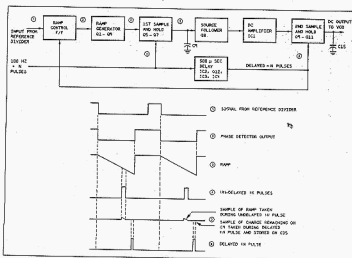

Figure 4-3. Sample and Hold Circuits, Simplified Block Diagram
circuit that is proportional to the phase relation between the 100 Hz output of the +N Counter and the 100 Hz signal that is derived from the M.O. output. Figure 4-3 is a block diagram of the sample-and-hold circuits.
4.58 The voltage on C9 is not suitable as a control voltage for the VCO Varicap because of the sampling ripple that is present, shown on the waveforms in Figure 4-3. The delayed +N pulse therefore activates a second sampling circuit so that a sample can be taken of the charge on C9 between un-delayed +N pulses.